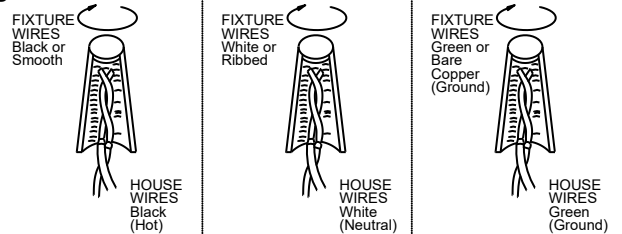

Fig. 3
7. Place fixture body (E) over mounting plate (A), and secure with screws (D) and washers provided.
8. To prevent moisture from entering outlet box and causing a short, use clear silicone sealant to outline the outside of fixture back plate where it meets wall leaving a space at the bottom to allow moisture a means to escape. (Fig.3)